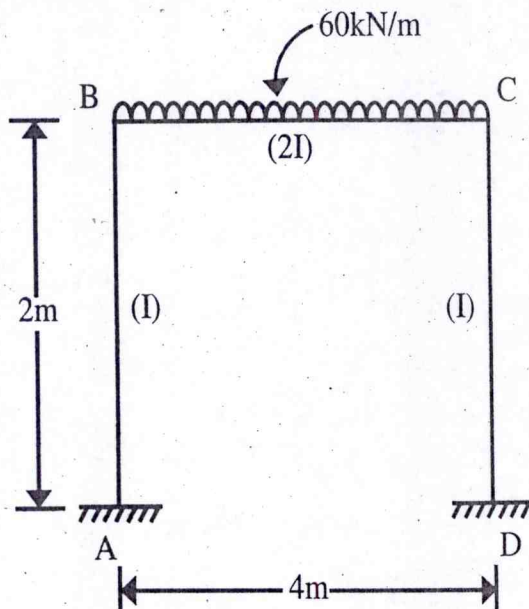

Fig.3
Q.2 Analyze the portal frame as shown in Fig. 3 by moment distribution method. The frame is fixed at A and D and has rigid joints at B and C. Draw the bending moment diagram and sketch the deflected shape of the structure. [16]